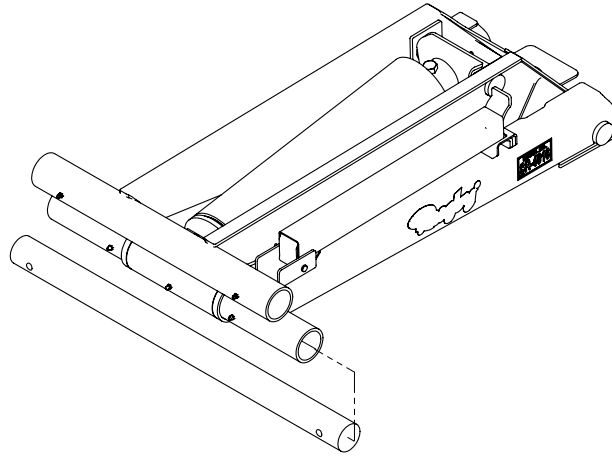

Figure 6
1. Slide the saddle shaft into the lower tube of the hoist so that approximately 4 inches extend past the tube on each side. (**Figure 6.**)